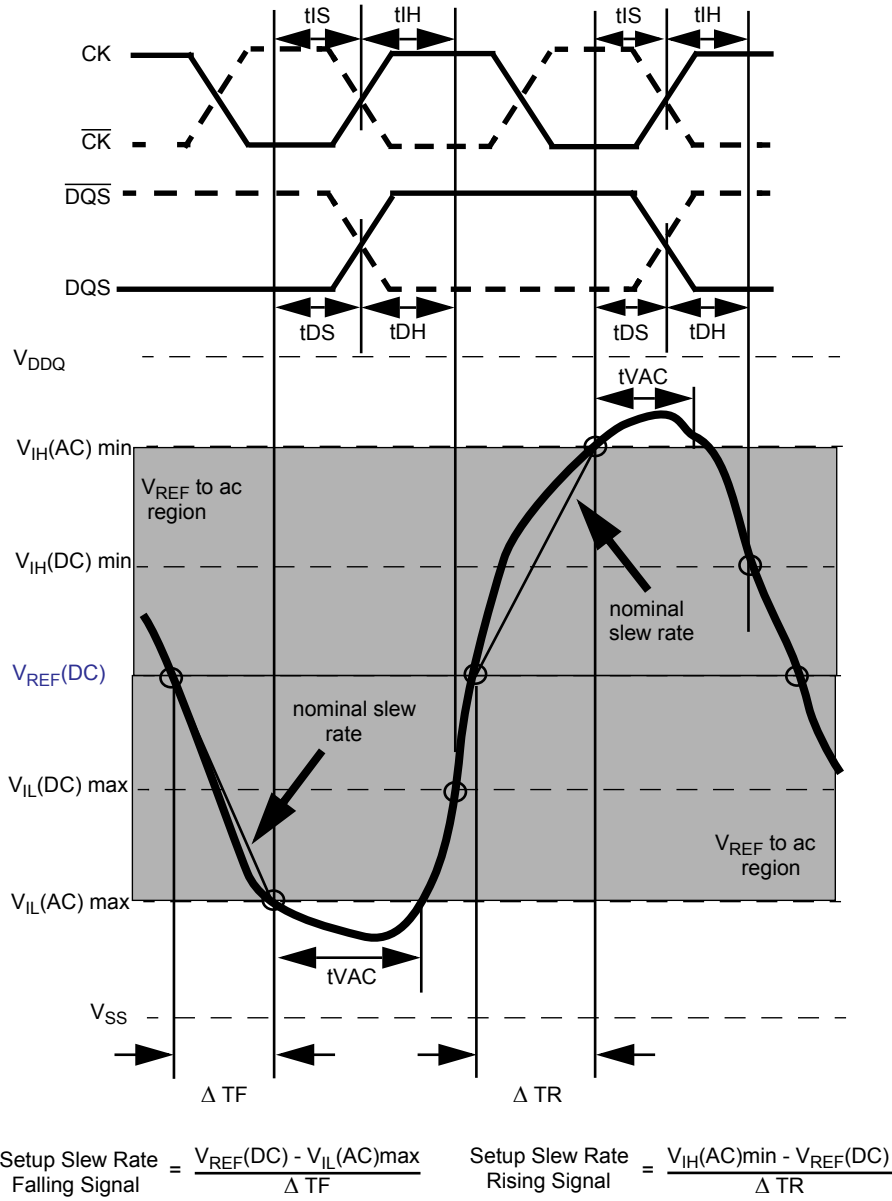
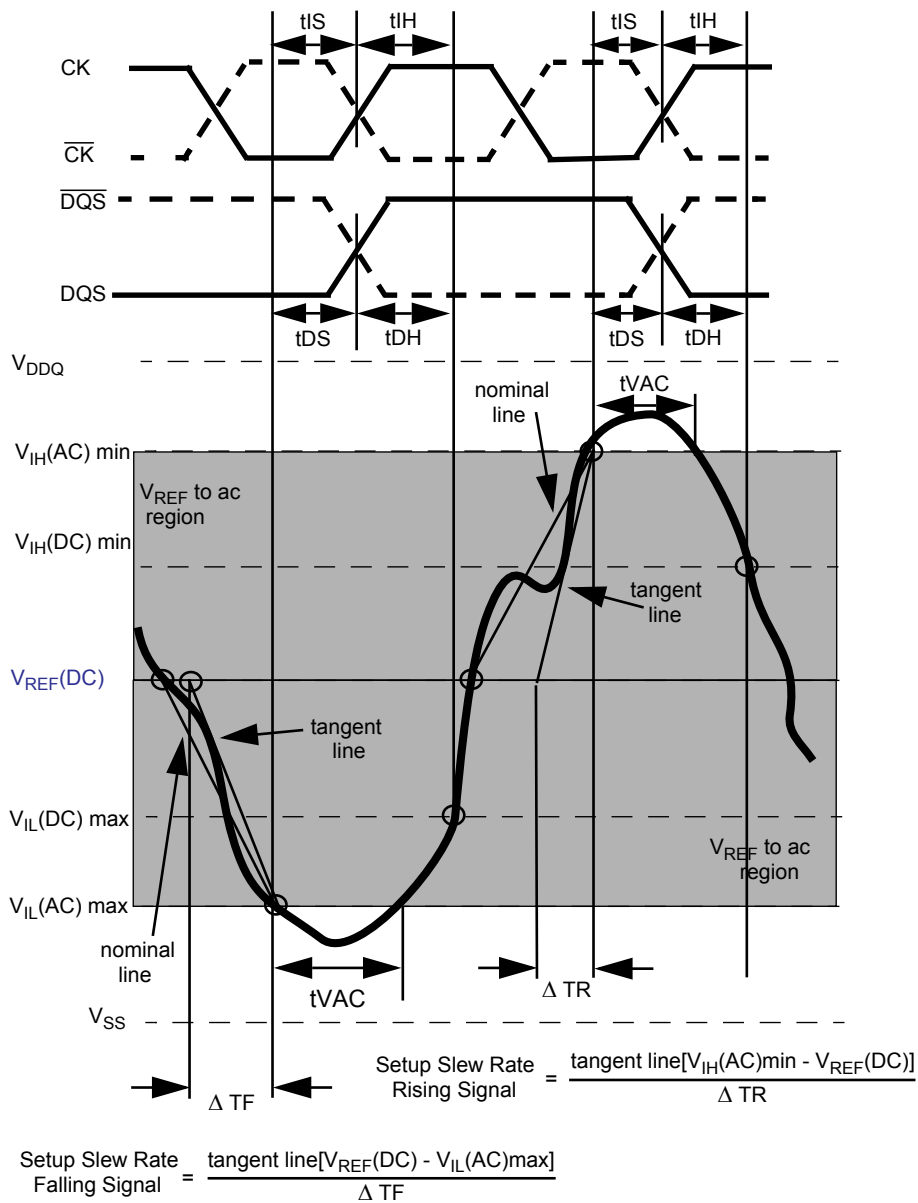

Figure 21. Illustration of nominal slew rate and t_{VAC} for setup time t_{DS} (for DQ with respect to strobe) and t_{IS} (for ADD/CMD with respect to clock).
Figure 23. Illustration of tangent line for setup time t_{DS} (for DQ with respect to strobe) and t_{tS} (for ADD/CMD with respect to clock)
Example: tIS (total setup time) = tIS(base) + ΔtIS Setup (tIS nominal slew rate for a rising signal is defined as the slew rate between the last crossing of V_{REF}(DC) and the first crossing of V_{IH}(AC)min. Setup (tIS) nominal slew rate for a falling signal is defined as the slew rate between the last crossing of V_{REF}(DC) and the first crossing of V_{IL}(AC)max. If the actual signal is always earlier than the nominal slew rate line between shaded 'V_{REF}(DC) to ac region', use nominal slew rate for derating value (see Figure 21). If the actual signal is later than the nominal slew rate line anywhere between shaded 'V_{REF}(DC) to ac region', the slew rate of a tangent line to the actual signal from the ac level to dc level is used for derating value (see Figure 23).